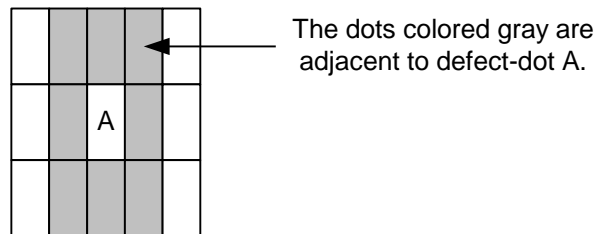

Fig. 11.5
- The definition of adjacent dot is shown as Fig. 11.5.